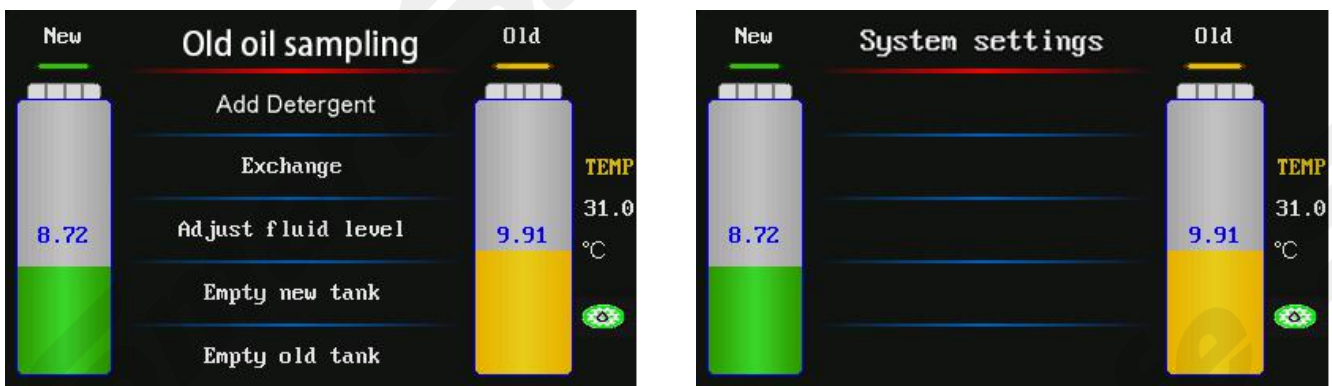

Fig.7
2. The main menu of display screen is as shown in Fig.7.
- 2) Connect the two hoses marked "TO TRANSMISSION" of CAT-601S to the disconnected two ends of the hoses of automatic transmission (no necessary to consider the direction of the fluid flow). Refer to Fig.7.